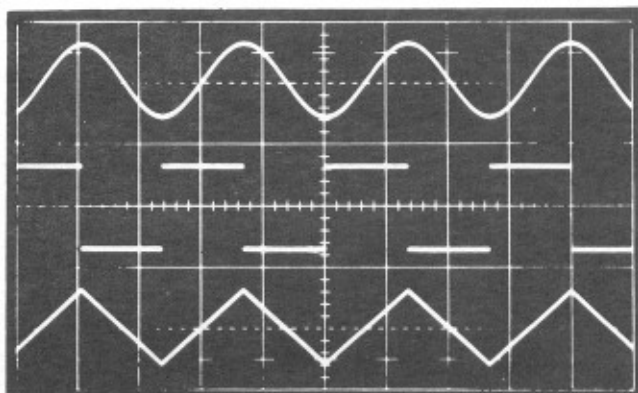

Fig. 3. Sine, square, and triangle waveforms.
6. Select sine, square, or triangle wave by pressing the corresponding waveform switch (6). Fig. 3 illustrates the output waveforms and their phase relationships. NOTE: In continuous run operation, the haversine function (leftmost waveform switch) is identical to the sine. Haversine is discussed in the section on TRIGGERED OUTPUT OPERATION.